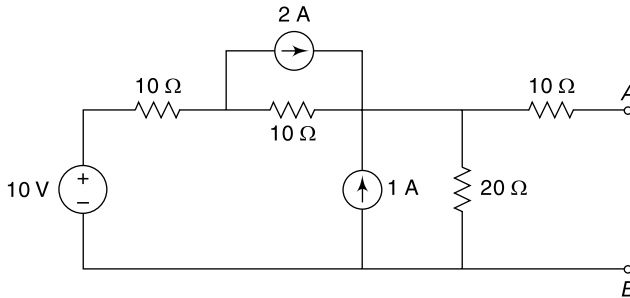

Fig. 4.129 Circuit of Ex. 4.98
4.98 Find the Thevenin's equivalent circuit at terminals AB for the network shown in Fig. 4.129 and hence determine the power dissipated in a $5\ \Omega$ resistor connected between A and B .